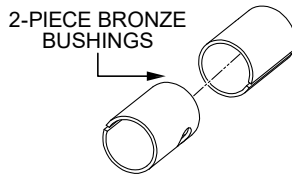

Figure 82. Bronze Bushings
5. Examine the bronze trowel arm bushings (Figure 82), and clean them if necessary. Replace the bushings if they are worn or out-of-round.